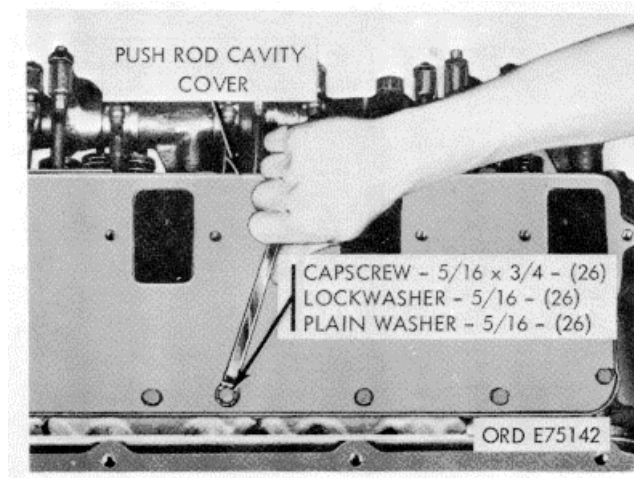
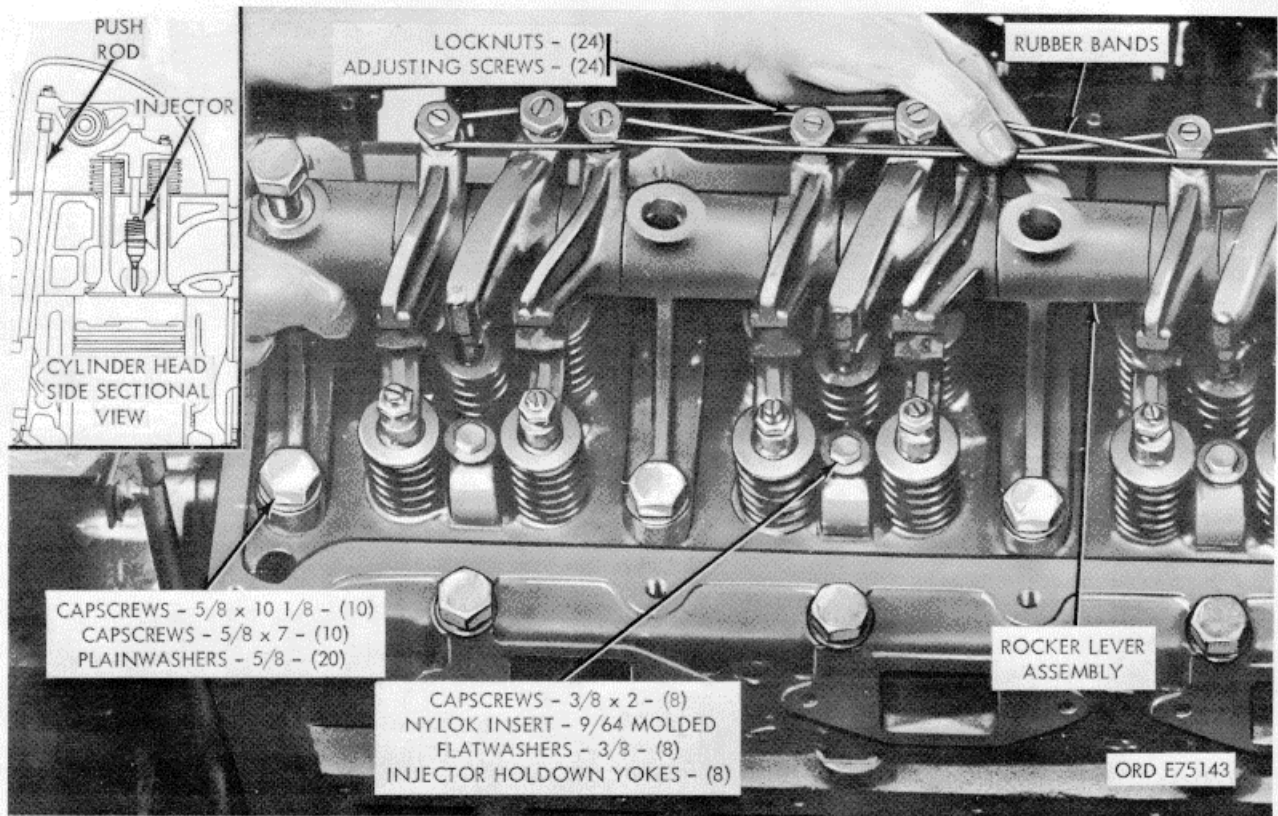
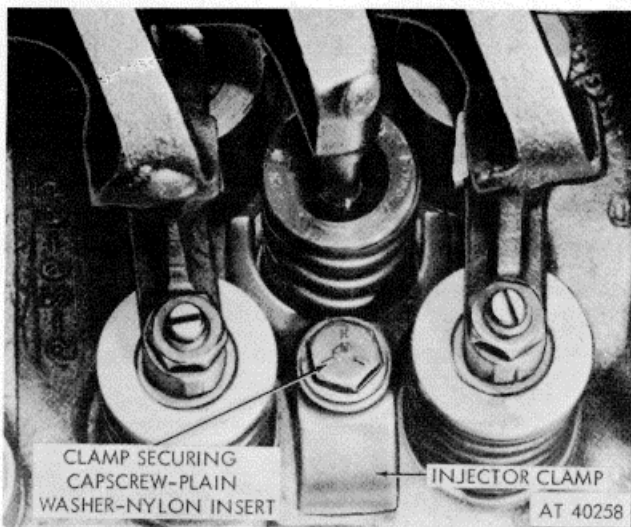
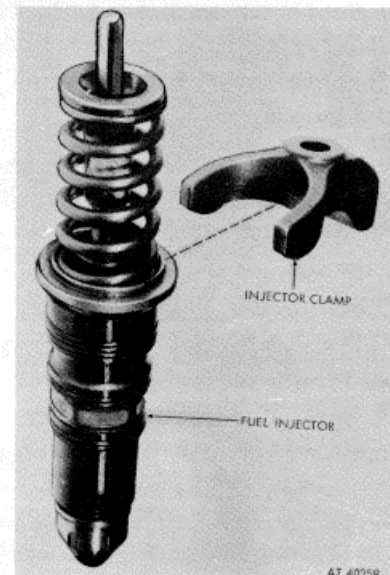

Figure 2-14. Push rod cavity covers-removal/installation.
Figure 2-15. Rocker arms and push rods--removal/installation.
Figure 2-16. Injector clamps--removal/installation.
Figure 2-17. Fuel Injector and hold-down clamp.
*b. Push Rod Cavity Covers* (fig. 2-14).
(1) Remove 26 capscrews, lockwashers, and flat washers securing each cover to cylinder heads.
(2) Remove covers and gaskets.
*c. Rocker Arms and Push Rods* (fig. 2-15)
(1) Loosen all push rod adjusting screw locknuts and back-off adjusting screws.
(2) Secure rocker arms with rubber bands.
(3) Remove ten capscrews and flat washers securing each rocker arm to respective cylinder head.
(4) Remove rocker arms and brackets.
(5) Remove 24 push rods (16 valve and 8 injector) from tappets.
*d. Fuel Injectors* (fig. 2-16).
(1) Remove eight capscrews and flat washers and nylon inserts securing injector clamps to cylinder head.
(2) Remove clamps.
(3) Pull injectors from cylinder head (fig. 2-17).